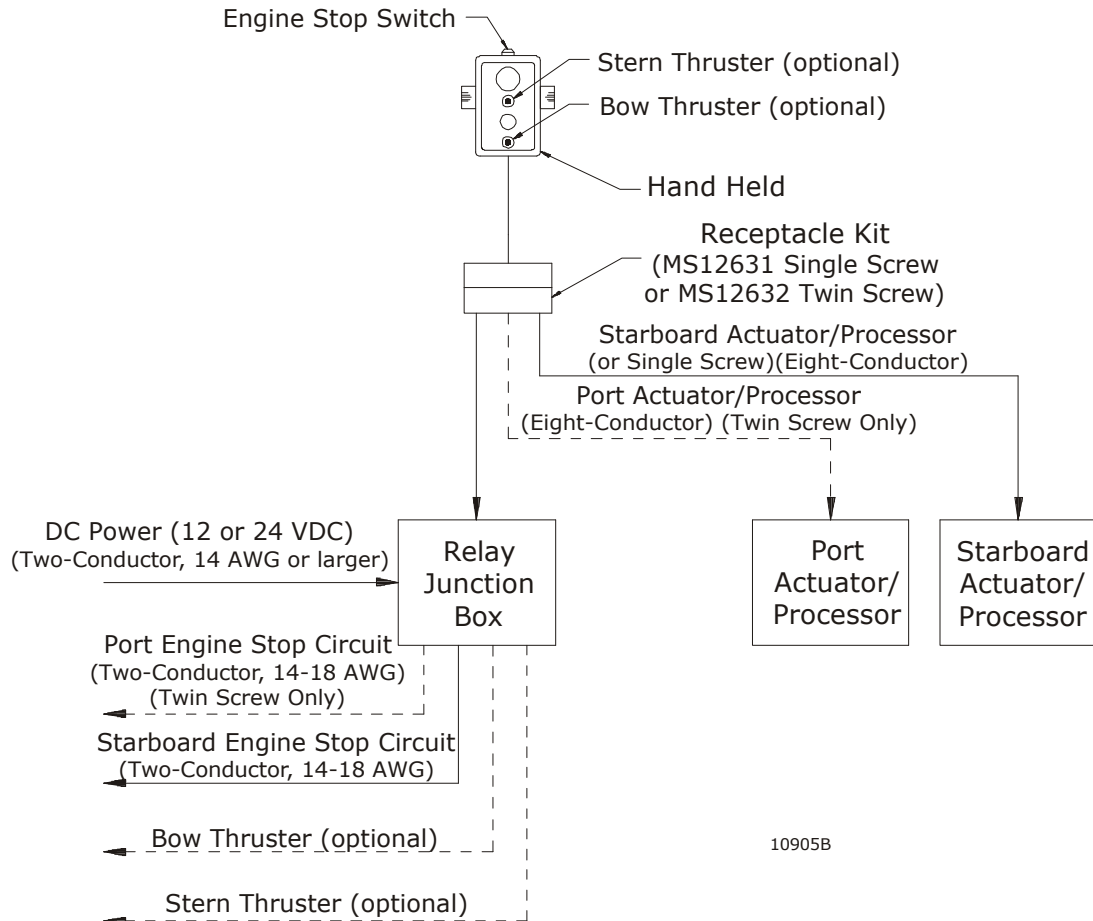

Figure 1 – Typical Cabling Diagram
| FIGURE 1 – TYPICAL CABLING DIAGRAM | 2 |
Refer to Figure 1.
The Hand Held is supplied with an Engine Stop Switch. The switch is located at the top of the Hand Held. Refer to Figure 1.
- The Thruster switch is located just below the Station Transfer Button on the Hand Held. (Reference Figure 1)